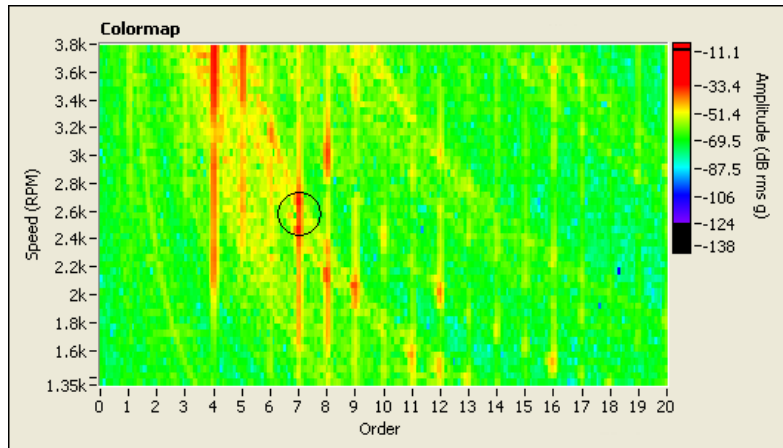

Figure 5. RPM-Order Plot
2. On the **Configuration** page of the configuration dialog box, change the **Plot type** to **RPM-Order**. An RPM-Order plot displays how the vibration amplitude at different orders changes with the rotational speed. From the **Colormap** plot in Figure 5, you can see that the amplitude of the seventh order is the strongest around 2,600 RPM.